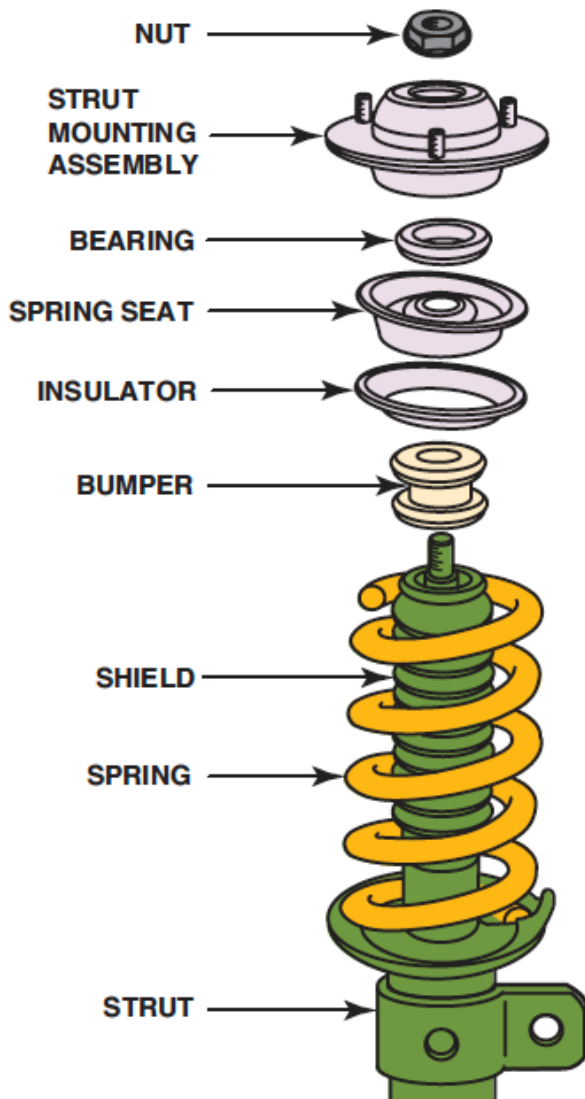

Figure 23. MacPherson strut components.
5. After removing the strut rod nut, remove the upper strut bearing assembly and the spring. Figure 23.